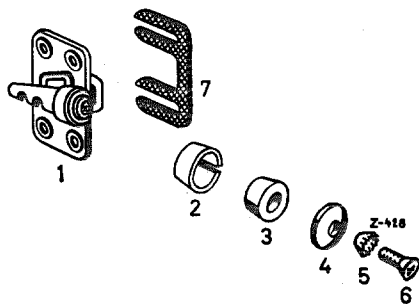

Fig. 72—21/1
2. Screw the lock bolt into place but do not tighten the screws. Close the door to enable the lock bolt to align with the striker. If necessary, correct the position of the lock bolt by adding or removing shims (7) (Fig. 72—21/1).